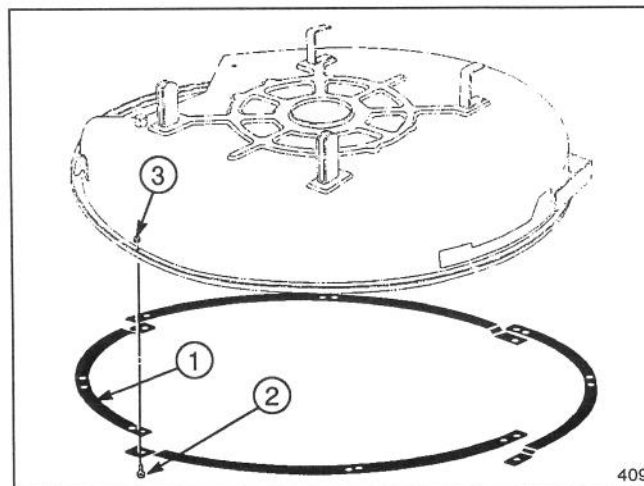

Figure 8
1. Align holes in first two deck ring pieces with rim hole in center of discharge area (Fig. 8). Secure ring pieces to deck with capscrew and locknut.
2. Continue securing deck ring pieces to deck in a counterclockwise direction using remaining (7) capscrews and locknuts (Fig. 8).